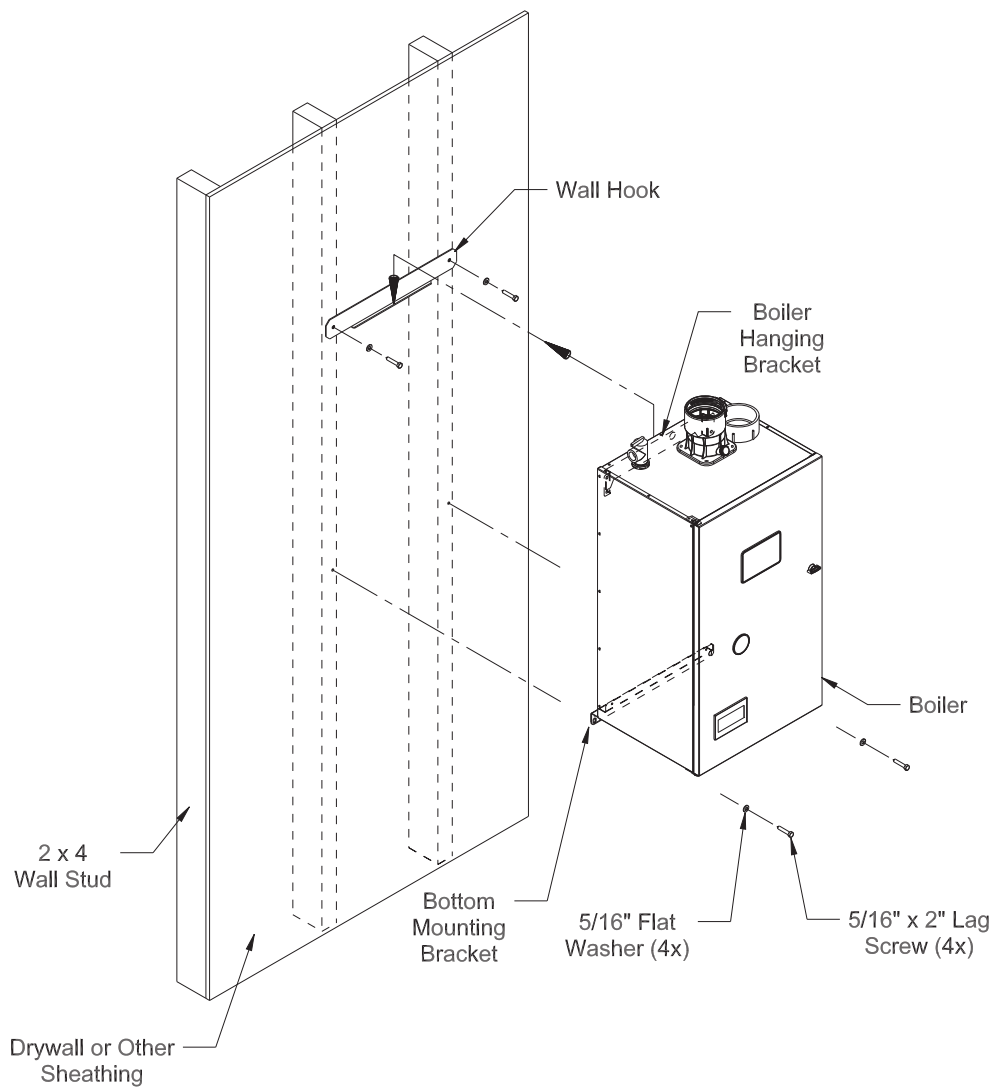

Figure 5.2 Boiler Mounting Bracket Installation / Boiler Wall Mounting
6. The wall mounting hook is used to secure the boiler to the shipping pallet. Remove this hook from the pallet and secure to the wall using the 5/16" x 2" lag screws and washers, or other suitable anchors as appropriate (Figure 5.2). Make sure the hook is level.
7. Hang the boiler on the wall hook as shown in Figure 5.2.
8. If not already done in Step (5) locate and drill holes "C" and "D" using the ob-round slots in the bottom mounting flange. Secure the bottom flange to the wall using the 5/16"x 2" lag screws, or other fasteners as appropriate (Figure 5.2).